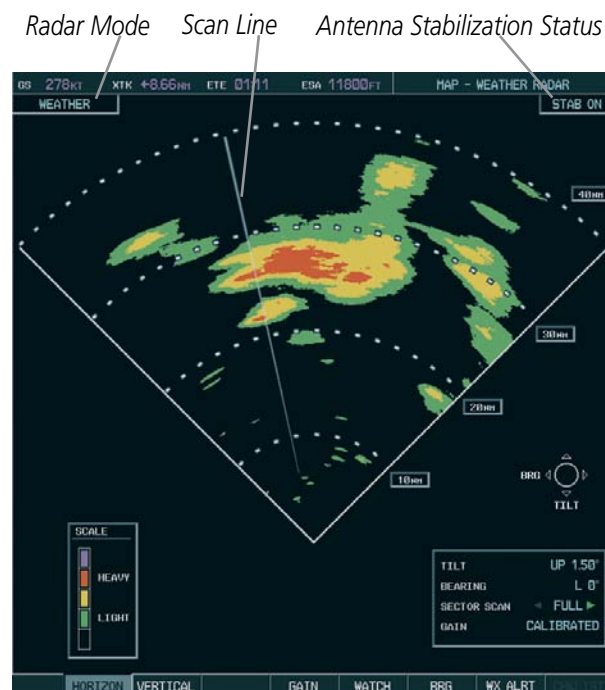

Figure 6-103 Horizontal Scan Display
- 5) The horizontal scan is initially displayed (Figure 6-103). If desired, select the **VERTICAL** Softkey to change to vertical scanning.